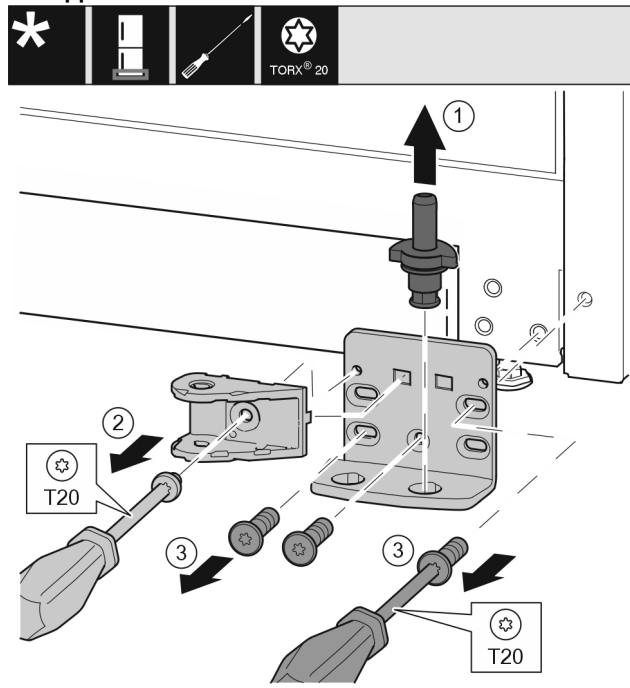

Fig. 34 \*
- ▶ Lift the bearing pin completely upward and pull it out. Fig. 34 (1)\*
- ▶ Take out the screw with a T20 screwdriver and take off the soft stop connection. Fig. 34 (2)
- ▶ Take out the screws with a T20 screwdriver and take off the bearing bracket. Fig. 34 (3)\*